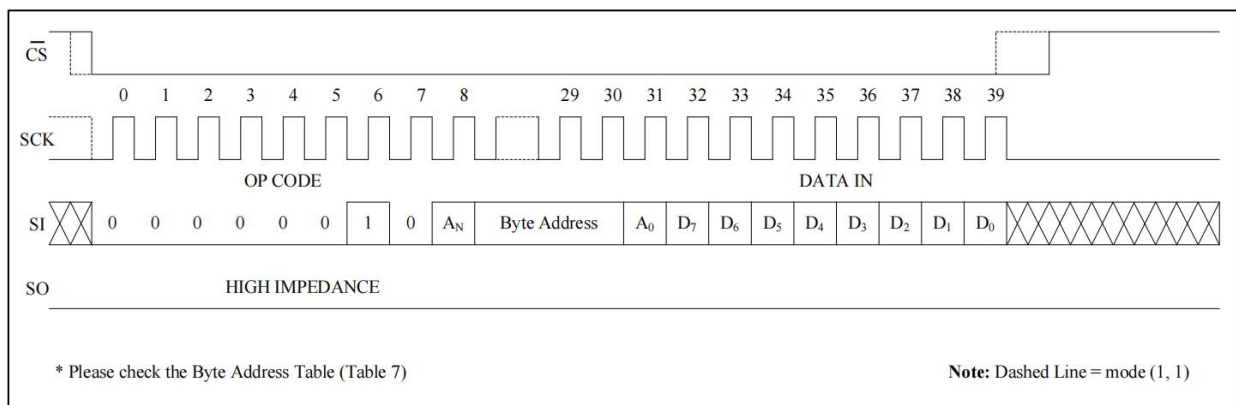

Figure 4
**Byte Write:** Once the WEL bit is set, the user may execute a write sequence, by sending a WRITE instruction, a 24-bit address and a data byte as shown in Figure 4. Only 17 significant address bits are used by the 25M01. The rest are don't care bits, as shown in Table 7. Internal programming will start after the low to high  $\overline{CS}$  transition. During an internal write cycle, all commands, except for RDSR (Read Status Register) will be ignored. The  $\overline{READY}$  bit will indicate if the internal write cycle is in progress ( $\overline{READY}$  high), or the device is ready to accept commands ( $\overline{READY}$  low).